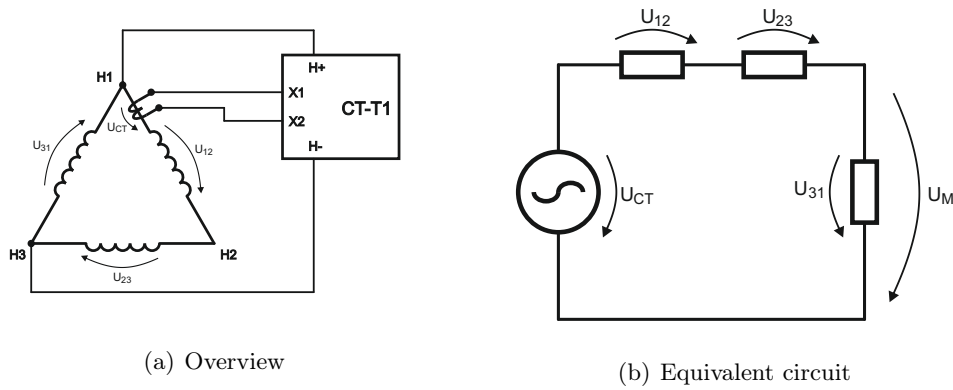

Figure 3.3: CT under test built into Δ power transformer (TR factor 1/3)
- A turns ratio correction factor of 1/3 needs to be applied if the $H1-H2$ cables of the CT-T1 are connected to an independent coil (Figure 3.3).